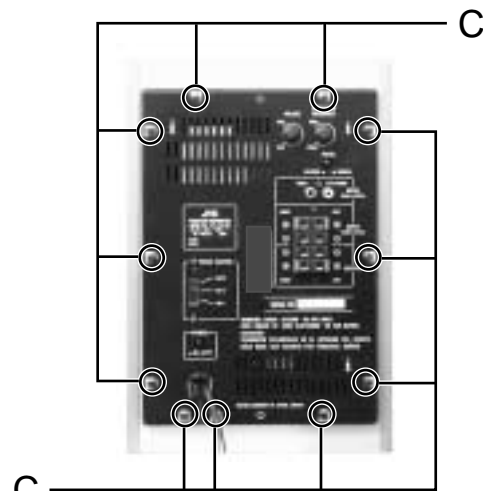

Fig.7
■ Removing the amplifier box (See Fig.7 and 8)